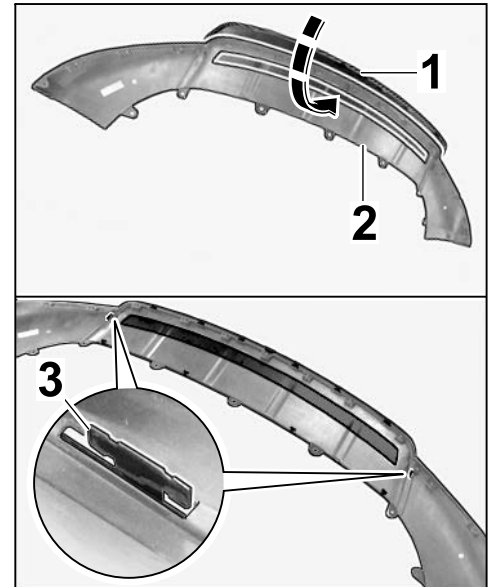

Figure 9
- 2.3 Install front spoiler on stainless steel skid plate and carefully guide the outer retaining pivots into the slots ( $\Rightarrow$  *Figure 9*).